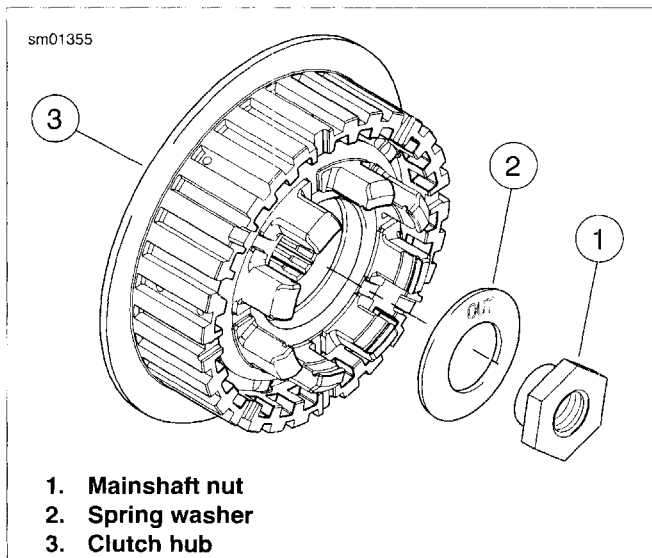

Figure 5-20. Mainshaft Nut and Washer
See Figure 5-20. Washer (2) must be installed with the word "out" facing the transmission mainshaft nut (1). Incorrect assembly can result in clutch and/or transmission failure.
- See Figure 5-20. Apply two or three drops of LOCTITE Threadlocker 262 (red) onto threads on end of transmission mainshaft. Install spring washer (2) and mainshaft nut (1) (left-hand threads) on transmission mainshaft. Tighten nut to 50-60 ft-lbs (67.8-81.3 Nm).